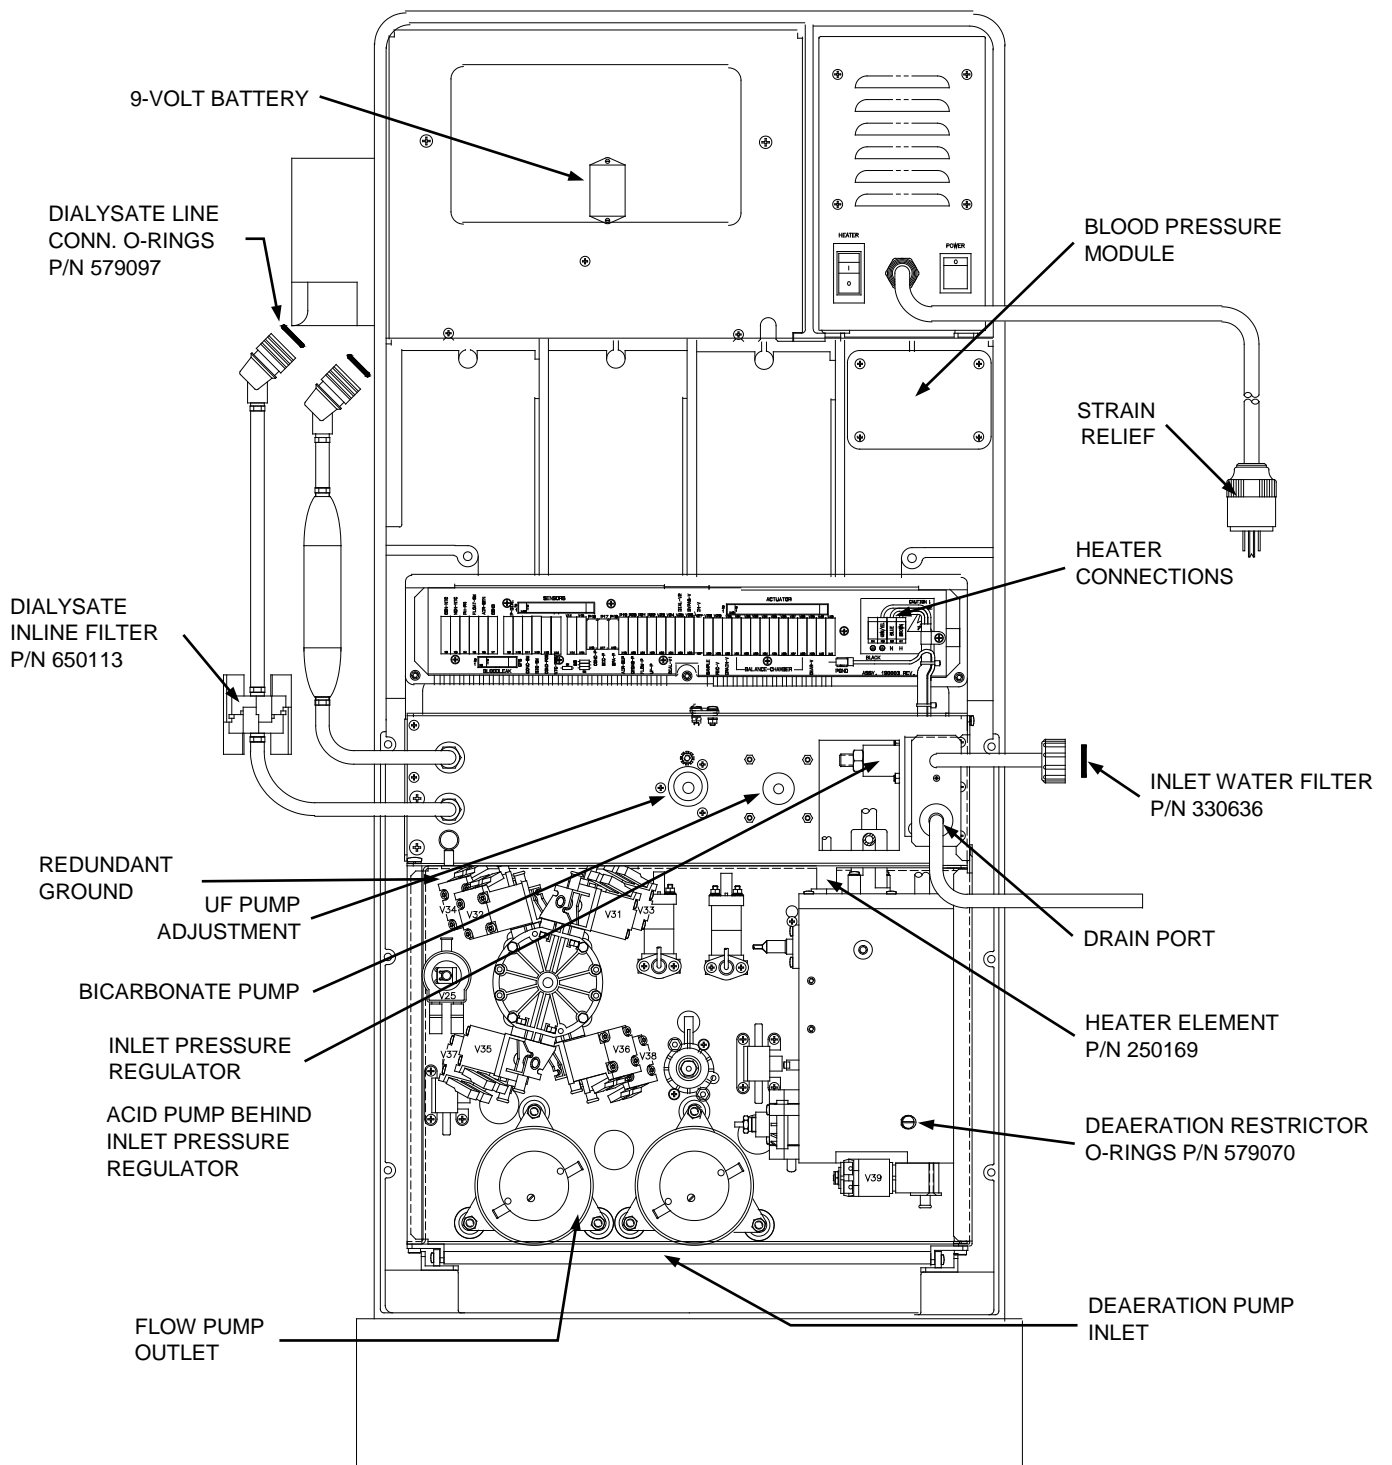

Figure 2. 2008K@home™ Hemodialysis System, Rear View.
1. Inlet Water Filter in the inlet connector of the water supply (See Figure 2, pg. 8).
3. Clean the Dialysate Inline filter (See Figure 2, pg. 8).
1. Remove power from the machine then check and tighten the 8-pin heater connections next to the distribution board (See Figure 2, pg. 8). Check heater block AC connections for signs of arcing or melting.
5. At the strain relief, locate the black, white and green wires from the power cord (inside the power supply chassis). Follow the black and white wires to the main power switch. Attached to the main power switch are four (4) wires (2 black and 2 white). Look for loose connections, cracked insulation, and signs of overheating, such as discolored or melted insulation. Replace wires with power supply wire kit (part number 190411).
7. With a digital multimeter, measure the resistance between the round (ground) pin on the power plug and the redundant ground terminal on the machine (See Figure 2, pg. 8). Verify that the resistance is less than 0.2 ohm. If the value is above 0.2 ohm, measure the internal resistance of your multimeter by shorting the leads together, then subtract this value from the resistance measured between the power plug ground pin and the redundant ground terminal on the machine to obtain the true ground resistance.
8. Record the measured value on either the Six (6) Month Preventive Maintenance Checklist or the Annual/4000 Hour Preventive Maintenance Checklist depending upon which is being performed.